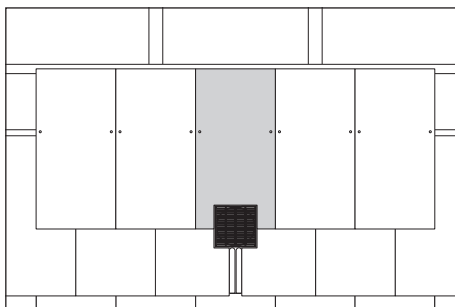

Fig. 5 – Cut slates to avoid grille on vent unit
- 6 Lay the next course of slates, cutting the slate directly above, to neatly abut the ventilator grille as required. Inspect the junction, security of the ventilating unit and adjacent slating before laying further courses. (Figs. 5 and 6). Continue slating in the normal manner.